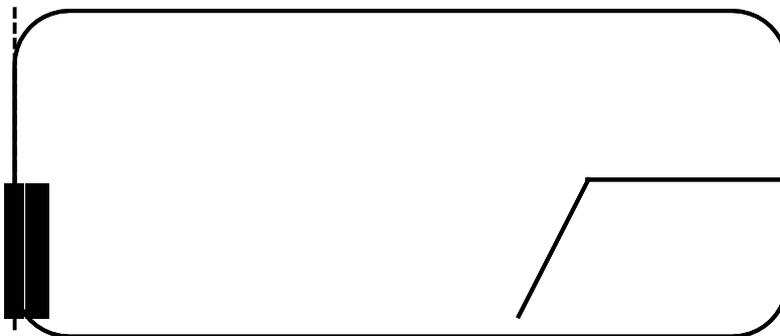

Fig. 1
- (1) Disconnect the faulty pair from service if possible.
- (2) Connect the faulty pair to the line terminals of the tester. (3) Press the 'ON' key to power up the tester.
- (4) After the initialisation period set the required propagation velocity factor by means of the arrow keys when in PVF Mode. Listed in Table A. are typical values of propagation velocity factor for various cable dielectrics. Use the menu select key to select metres or feet for the cursor value.
- (5) Inspect the trace for a fault pulse and reduce to the minimum Range where the fault pulse is clearly visible.
- (6) Change to locate mode and operate the cursor keys to position the cursor line at the start of the break point of the fault pulse , for example trace as shown in Fig.1
- (7) The distance to the fault may now be read directly from the cursor value, which is at the bottom centre of the LCD display. This reading can be in meters or feet depending on the parameter selected.
- (1) Shorts between two conductors of a cable pair. The reflection has the downward Polarity pulse, Fig.1
- (2) Sheath shorts are caused when a conductor in a cable makes contact with the metallic sheath of the cable. To locate a sheath short, first disconnecting the sheath from earth, connect one terminal to the sheath, the other to the conductor.
- (3) Crosses occur when conductors in the different pairs are crossed at a junction box. Crosses produce waveforms similar to shorts, but with reduced amplitude. Crosses can be located with the tester connected to one pair, but a more distinctive fault pulse is obtained if it is connected to the crossed conductors.